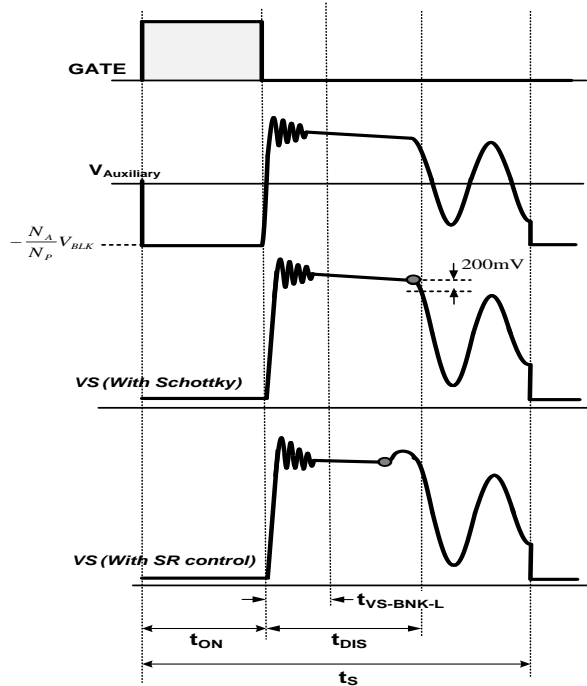

Figure 26. VS sampling with Diode or Synchronous Rectifier
VS voltage which is reflected auxiliary winding and proportional to output voltage. Therefore, It is possible to regulate output voltage by sensing VS voltage. Figure 26 shown VS sampling waveform with secondary rectifier that using Schottky diode or Synchronous Rectifier (SR).
In order to regulate output voltage in accurately range, FAN105A build-in VS sampling methodology for signal like Figure 26 showed, FAN105A samples and hold VS voltage
A leading edge blanking time (t_{VS-BNK-H/L}) start from primary switch turned off, that is caused by the resonance of leakage inductance and parasitic capacitance at transformer. In order to avoid VS sampling procedure get impacted by that ringing, the oscillation should be settle before settle down before t_{VS-BNK-L} ended as Figure 26 showed. t_{DIS} is secondary rectifier current discharging time which recommend better design is longer than t_{VS-BNK-H} during miumum on time controlling. t_{DIS} is predictable by following formula: